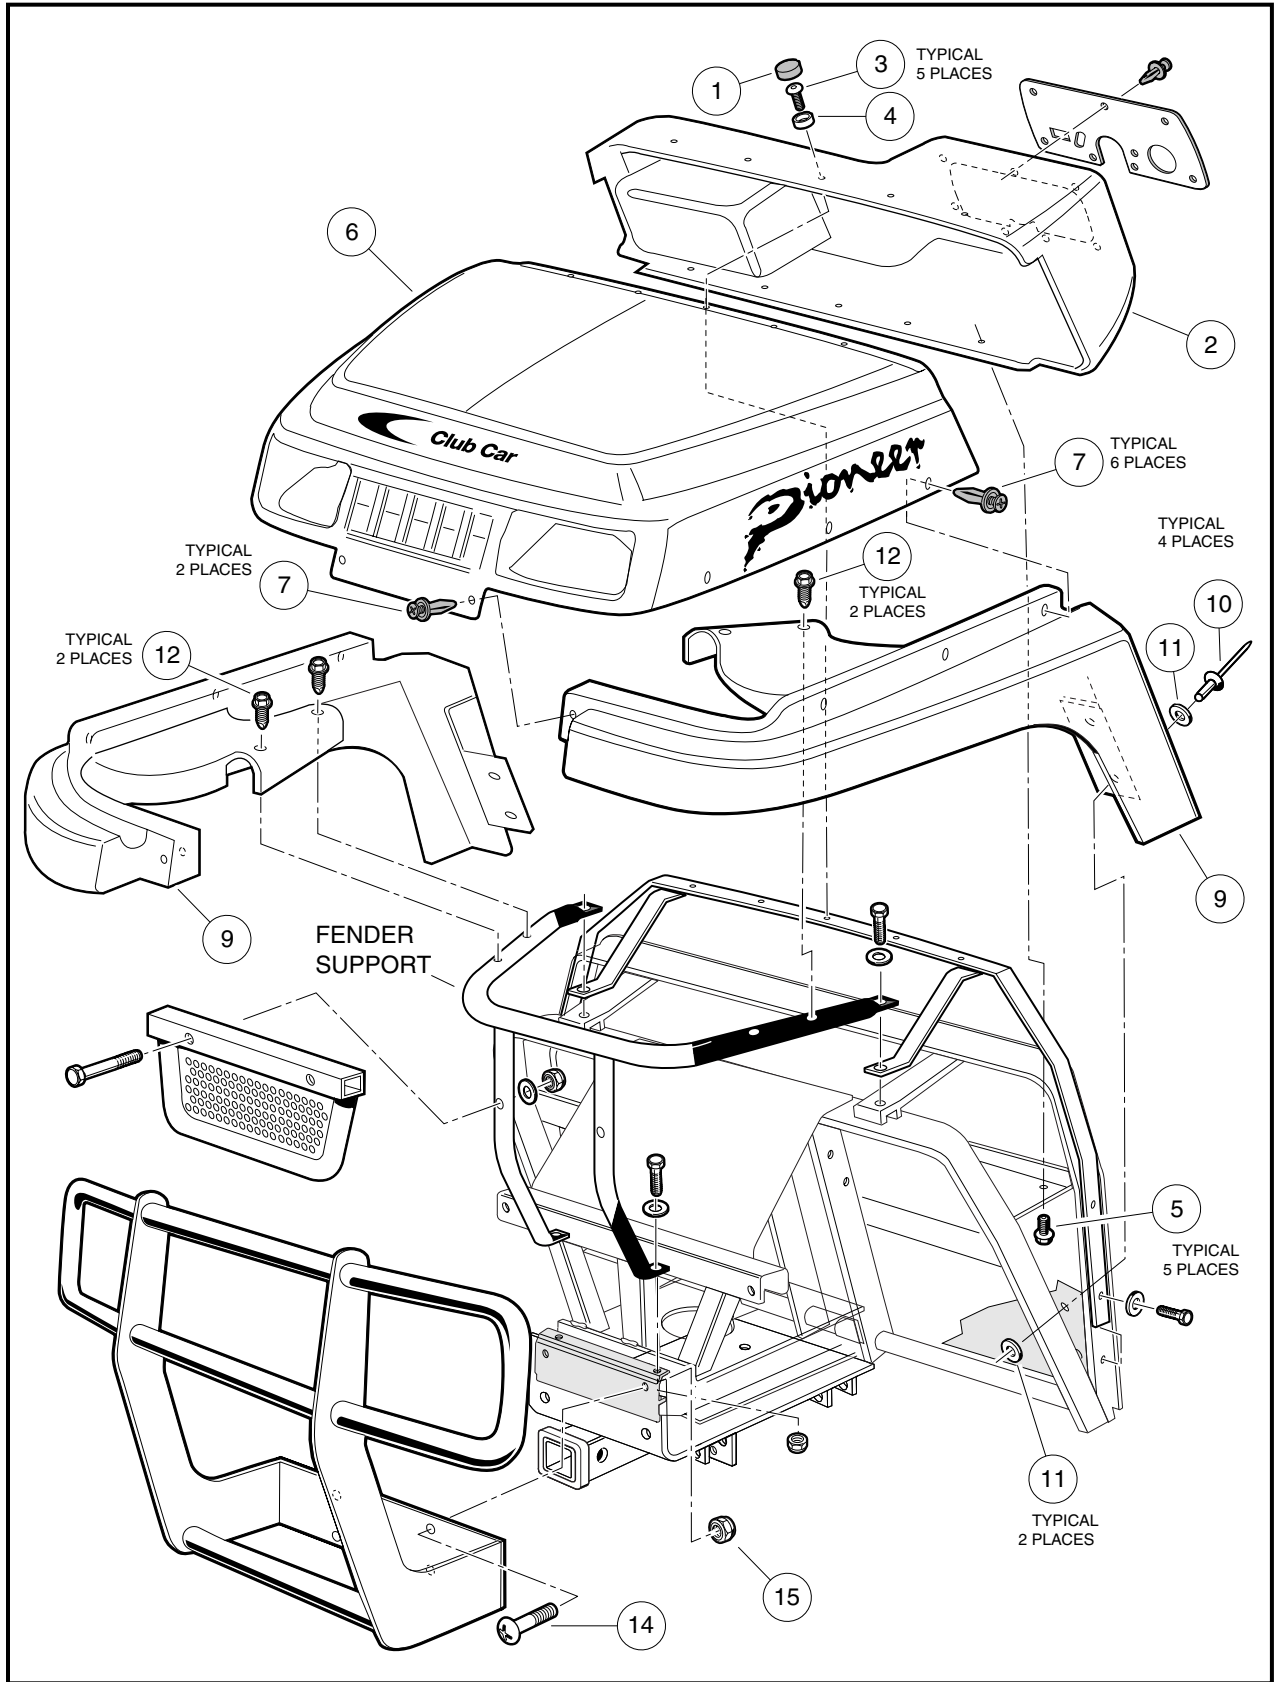

Figure 4-2 Front Body Assembly
5. Remove five caps (1) from top of dashboard (2) (**Figure 4-2, Page 4-5**).
6. Remove screws (3) and special plastic washers (4) from top of dashboard (2) using a Torx #T-30 driver.
7. Remove five screws (5) from underside of dashboard and pull dashboard away from front body (6).
2. Tighten screws (5) to 11 in-lb (1.2 N-m) (**Figure 4-2, Page 4-5**).
3. Tighten Torx-head screws (3) with plastic washers (4) to 45 in-lb (5.1 N-m).
4. Install five caps (1).
1. Remove five caps (1) from top of dashboard (2) (**Figure 4-2, Page 4-5**).
2. Use a Torx #T-30 driver to remove the Torx-head screws (3) and washers (4) from top of front body (6).
3. Use a 5/16 nut driver to remove five screws (5) from underside of dashboard (2) and gently slide dashboard away from front body (6).
4. Use a phillips head screwdriver to remove the six Tuflok fasteners (7) from sides and two (7) from front of body (6).
1. Remove front body (6) (**Figure 4-2, Page 4-5**). See **Front Body Removal** on page 4-3.
2. Pull back floor mat to access rivets securing front fender (9) to frame. Drill out two 3/16 x 5/8 pop rivets (10) and remove two washers (11).
3. Use a 3/8 hex-head socket to remove two screws (12) from fender frame support and remove fender.
1. Reverse the fender removal process (**Figure 4-2, Page 4-5**).
2. Tighten screws (12) to 50 in-lb (5.7 N·m).
3. Pop rivet fender to frame using two 3/16 x 5/8 pop rivets (10) and two 3/16 rivet washers (11).
1. Reverse the front body removal process (**Figure 4-2, Page 4-5**).
2. Secure front body to dashboard with screws (3) and plastic washers (4) and tighten to 45 in-lb (5.1 N·m).
3. Install five caps (1).
4. Secure front body to fenders with fasteners (7) and push the heads in until they snap into place.